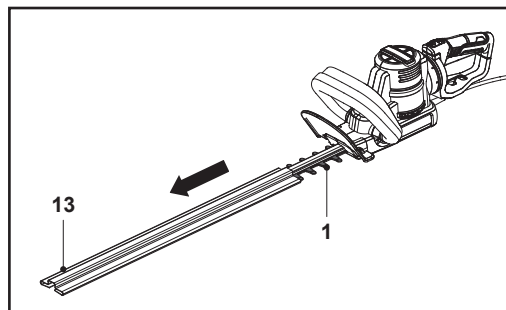

Fig. 1
1. Remove the blade cover (13) from the cutting device (blade) (1) before operation (Fig. 1).
2. Keep the blade cover (13) safely.